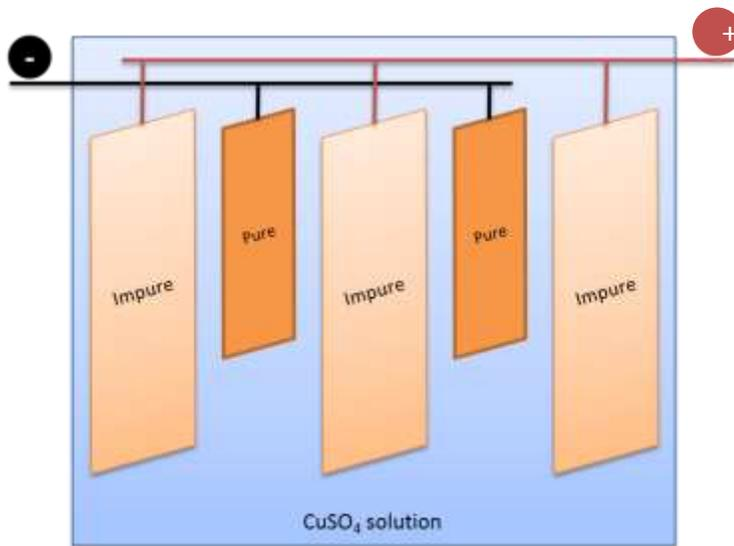

Figure 10. Diagram of commercial-scale electrolytic refinement.
8. Fill in the diagram below of commercial-scale electrolytic refining by labeling the anodes and cathodes, and by drawing in the movement of copper ions (Figure 10).